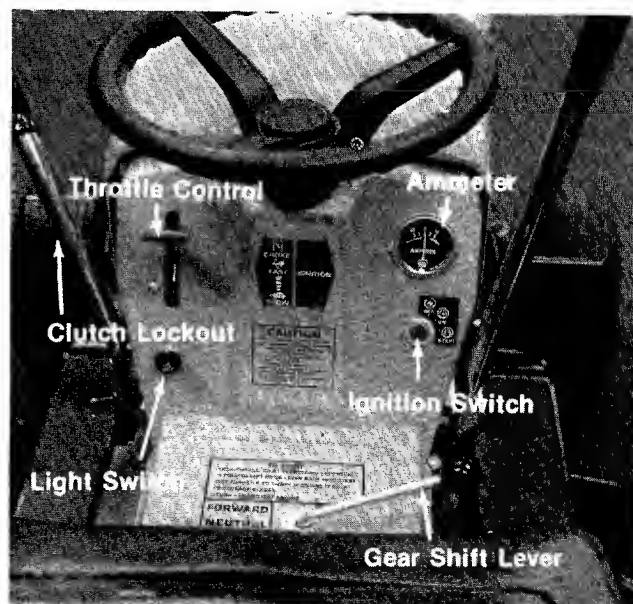

FIGURE 7. CONTROLS
a. **Throttle Control.** The throttle control is used to regulate the engine speed and choke the engine. The engine should be operated from  $\frac{3}{4}$  to full throttle when operating the cutting deck or snow thrower (optional). See figure 7.
b. **Gear Shift Lever.** The gear shift lever is used to shift into one of four **Forward Gears**, **NEUTRAL** or **REVERSE**. See figure 7.
**h. Ammeter. (Electric Start Model Only)** The ammeter registers the rate of battery charge or discharge. The ammeter should register on the plus side (+) when the engine is running the fast position until the battery is completely charged. With a fully charged battery or with the engine idling the ammeter will not show a charge. See figure 7.
**i. Light Switch. (Electric Start Only)** Pull the light switch out to turn on the lights. The lights will only operate when the engine is running. See figure 7.
**Electric Start.** See figure 7. Turn the key to the START position to start the engine. When the engine is running, let the key return to the ON position. To stop the engine, turn the key to the left to the OFF position and remove it to prevent accidental starting.
Step 4. Set the throttle control in the CHOKE position. See figure 7.
See figures 7 and 15. Turn the ignition key to the START position. When the engine is running, let the key return to the ON position.